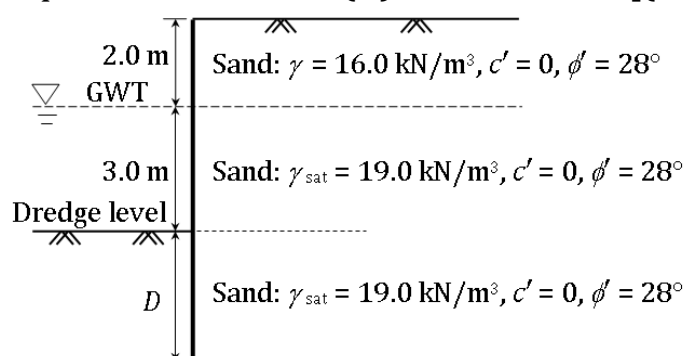

Fig. 3
6. (a) Determine the depth of embedment and the force in the tie rod for the anchored bulkhead (Fig.3) by applying directly a factor of safety of 1.5 to the passive pressure using free earth support method. The backfill and the soil below the dredge line is sand, having the following properties: $G = 2.6$, $e = 1.0$ and $\phi = 33^\circ$. Assume the soil above the water table is dry.
7. (a) Fig.3 shows a cantilever sheet pile wall penetrating a granular soil. Determine (i) Theoretical depth of embedment (D).